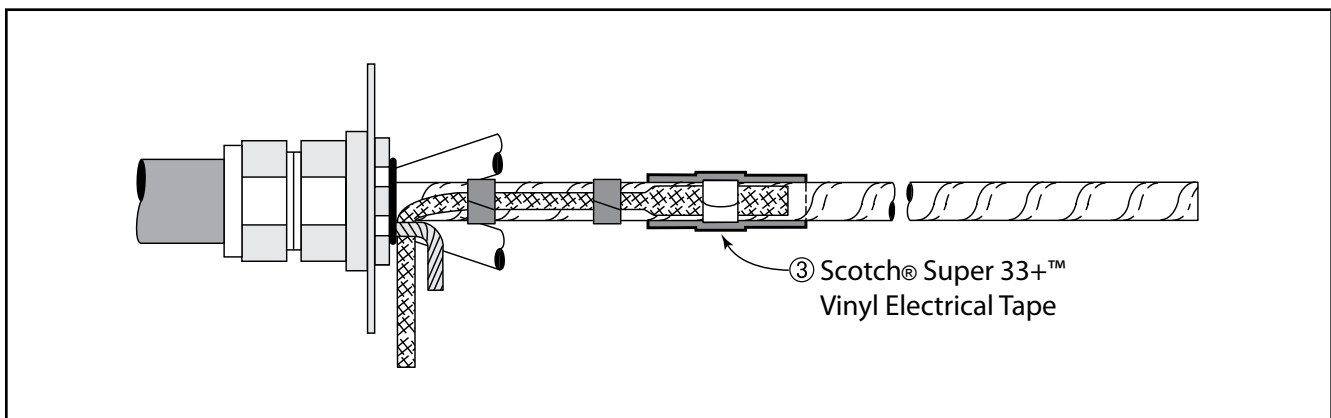

Figure 4
- 2.3 Apply two highly stretched half-lapped layers of Scotch® Super 33+™ Vinyl Electrical Tape over constant force springs and ground strap ends (③ Figure 4).